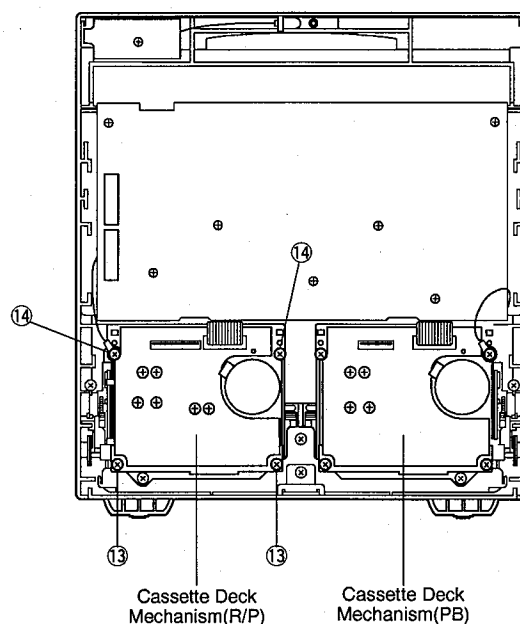

Fig. 12
Remove 2 screws (13) and 2 screws (14), and then pull out the Cassette Deck Mechanism in Fig. 12.